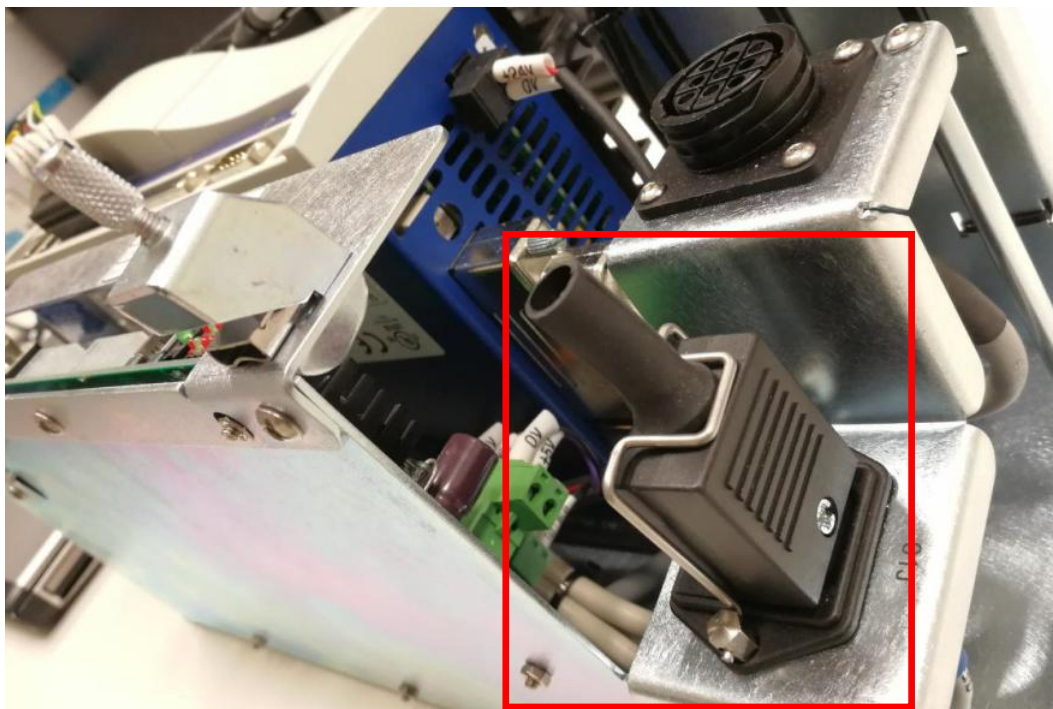

Figure 18
23. Unplug Vertical Type Power Connector from Kollmorgen Module as below Figure 18.